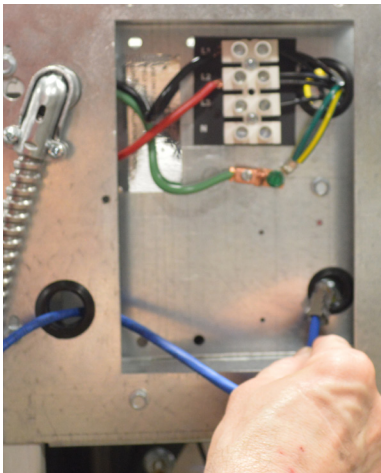

Figure 2
15. Run the cable through the lower left hole with a bushing (Figure 2).